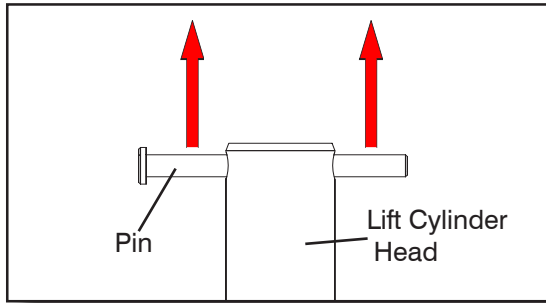

Figure 5-27. Lift Cylinder Securing Procedure
3. Insert a suitable pin at the lift cylinder head and secure it with straps. See Figure 5-27.